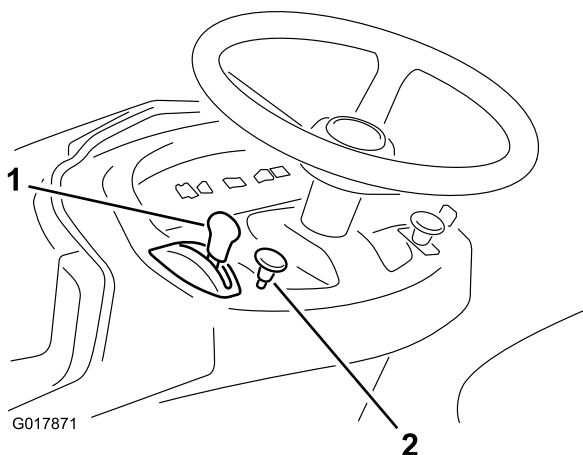

Figure 9
5. When starting a cold engine, pull out the choke knob (Figure 9).
7. After the engine starts, slowly shift the throttle control lever to the Fast position (Figure 9).
1. Move the throttle control lever to the Slow position (Figure 9).